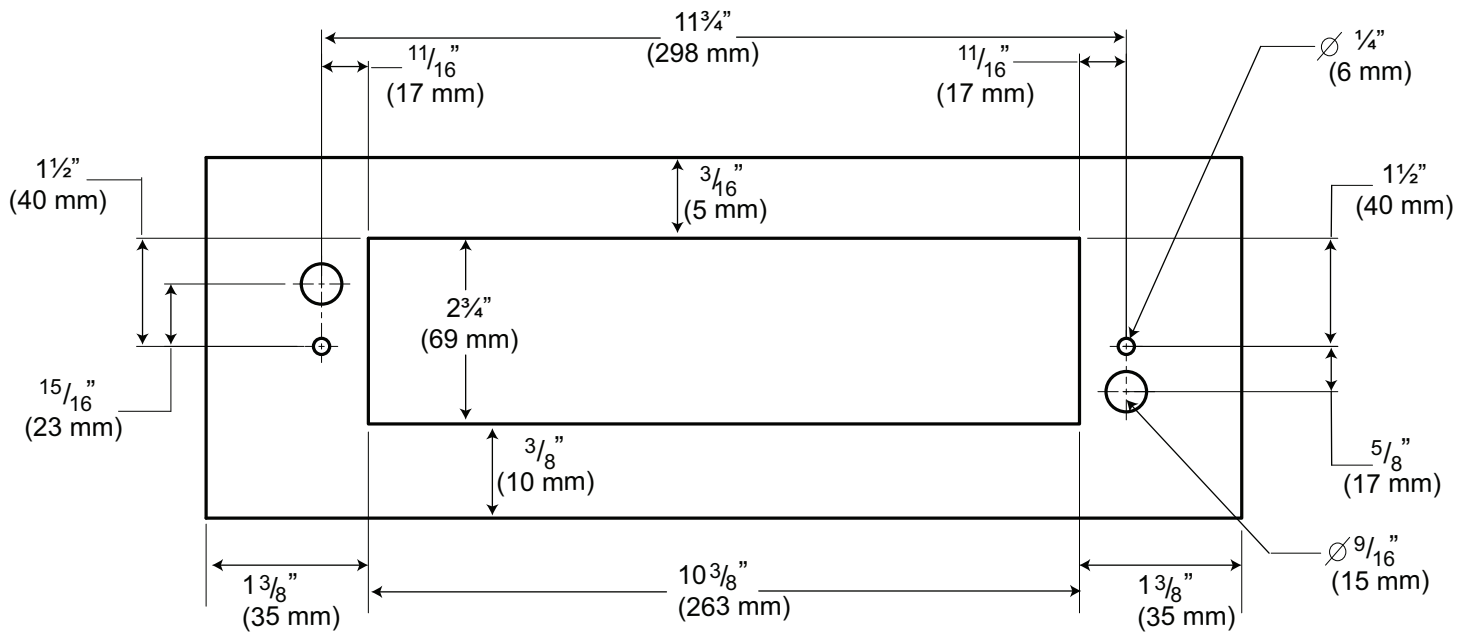

Figure 18: Wall Cutout (view is shown facing wall)
3. Prepare wall or similar surface for installation as shown below in Figure 18.